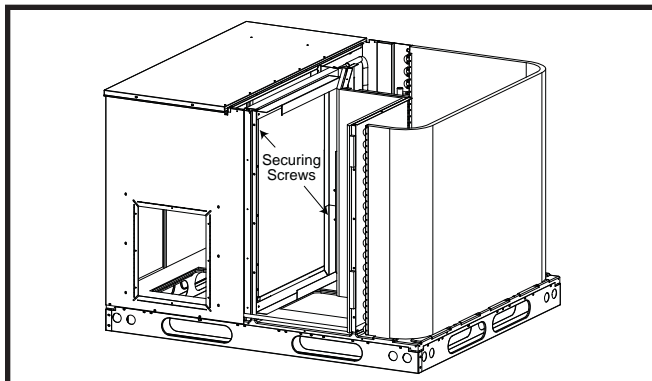

Figure 5. Internal Filter Rack Location
3. Remove (1) screw securing the assembly to the coil located on the left leg of the rack. **NOTE:** The assembly can now be easily collapsed and removed from the unit. See Figure 5 for filter rack securing screw locations.